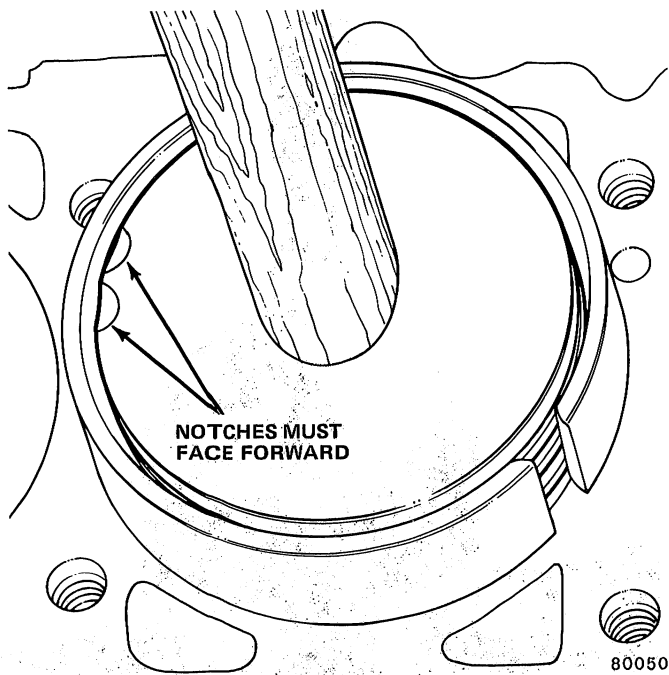

Fig. 1B-31 Installing Piston In Cylinder
(2) Position connecting rod in its original piston so that raised notch side of rod (fig. 1B-32) at bearing end is 180 degrees opposite notches in top of piston when installed.
(3) Position piston and rod on support, and insert pilot through piston and rod. Note positions of notches.
(4) Place support on arbor press, start pin into position and press on installation tool until guide bushing bottoms (fig. 1B-30).
(5) Remove installation tool and support assembly from piston and connecting rod assembly.
(6) Inspect piston pin for freedom of movement in piston bore.
(7) Install piston rings with appropriate installation tool. Refer to Piston Ring Installation for procedure.